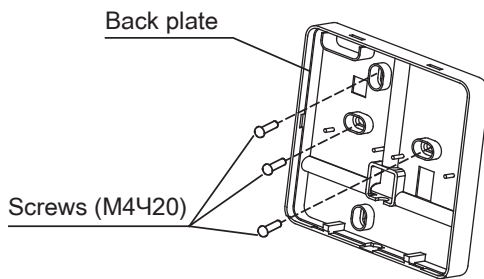

Fig 2-5
- For exposed mounting, fasten the back plate on the wall with the 3 screws (M4×20) and plugs. (Fig.2-5)